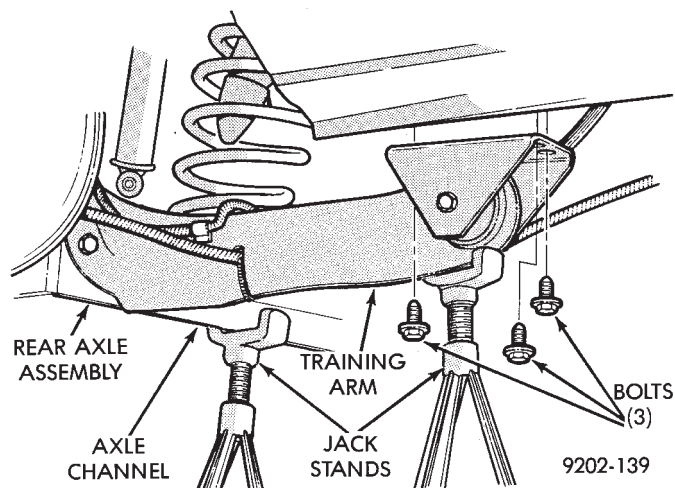

Fig. 2 Remove Pivot Bushing Hanger Bracket Bolts
(3) Support the rear axle assembly at both the axle channel and the trailing arm with jack stands (Fig. 2). Then remove lower shock absorber to rear axle mounting bolt (Fig. 2).